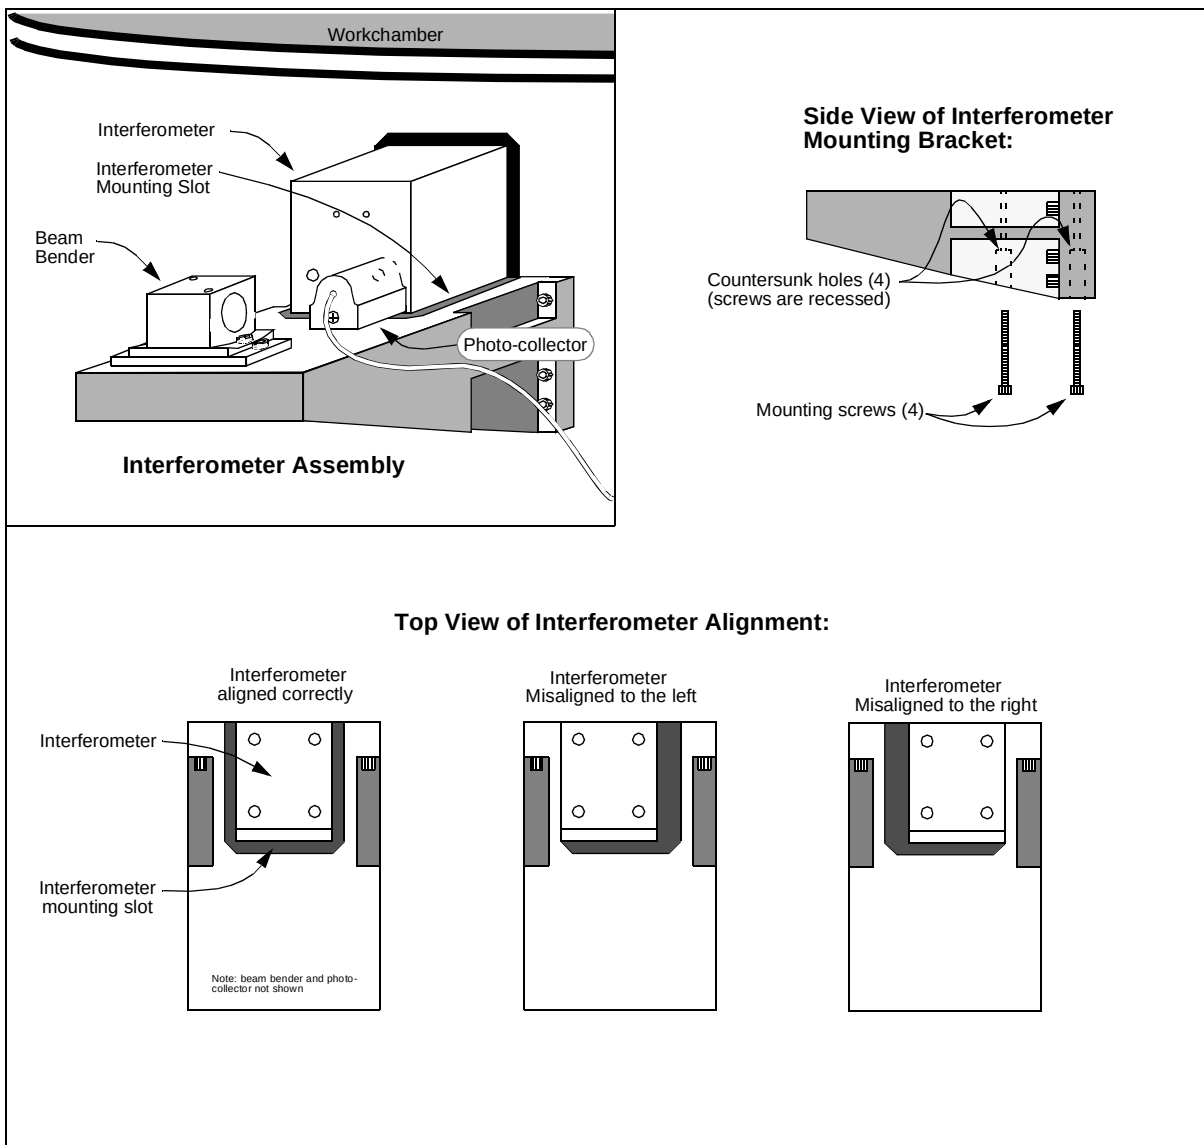

Figure 3. Top and Side Views of Interferometer
Each interferometer should be flush against the workchamber and centered within its mounting slot (see Figure 3).
- 3-2.** If an interferometer is not properly aligned, loosen its mounting screws, adjust the position of the interferometer so that it is flush against the workchamber and centered within its mounting slot, then retighten the screws (see Figure 3).